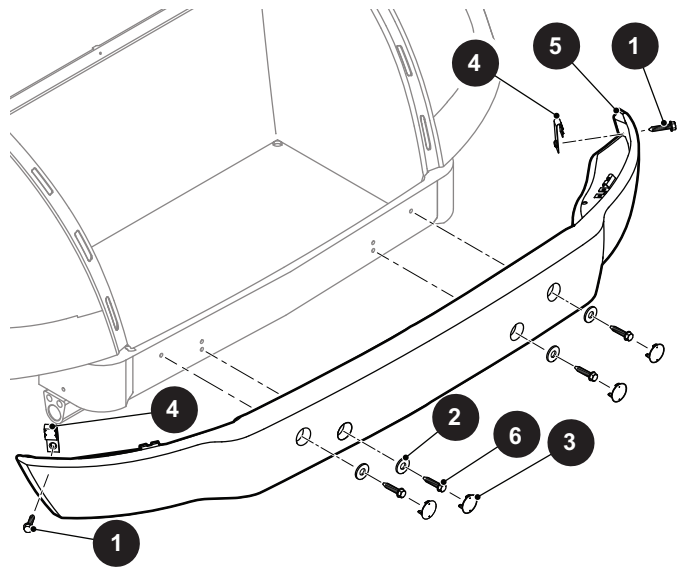

Figure 9 Rear Bumper
- Drill out rivets (5) that secures the rocker panel (4) to the vehicle frame. (Figure 9).
- Remove two torx bolts (1), spacers (2) and nuts (3) from top portion of rocker panel (4).